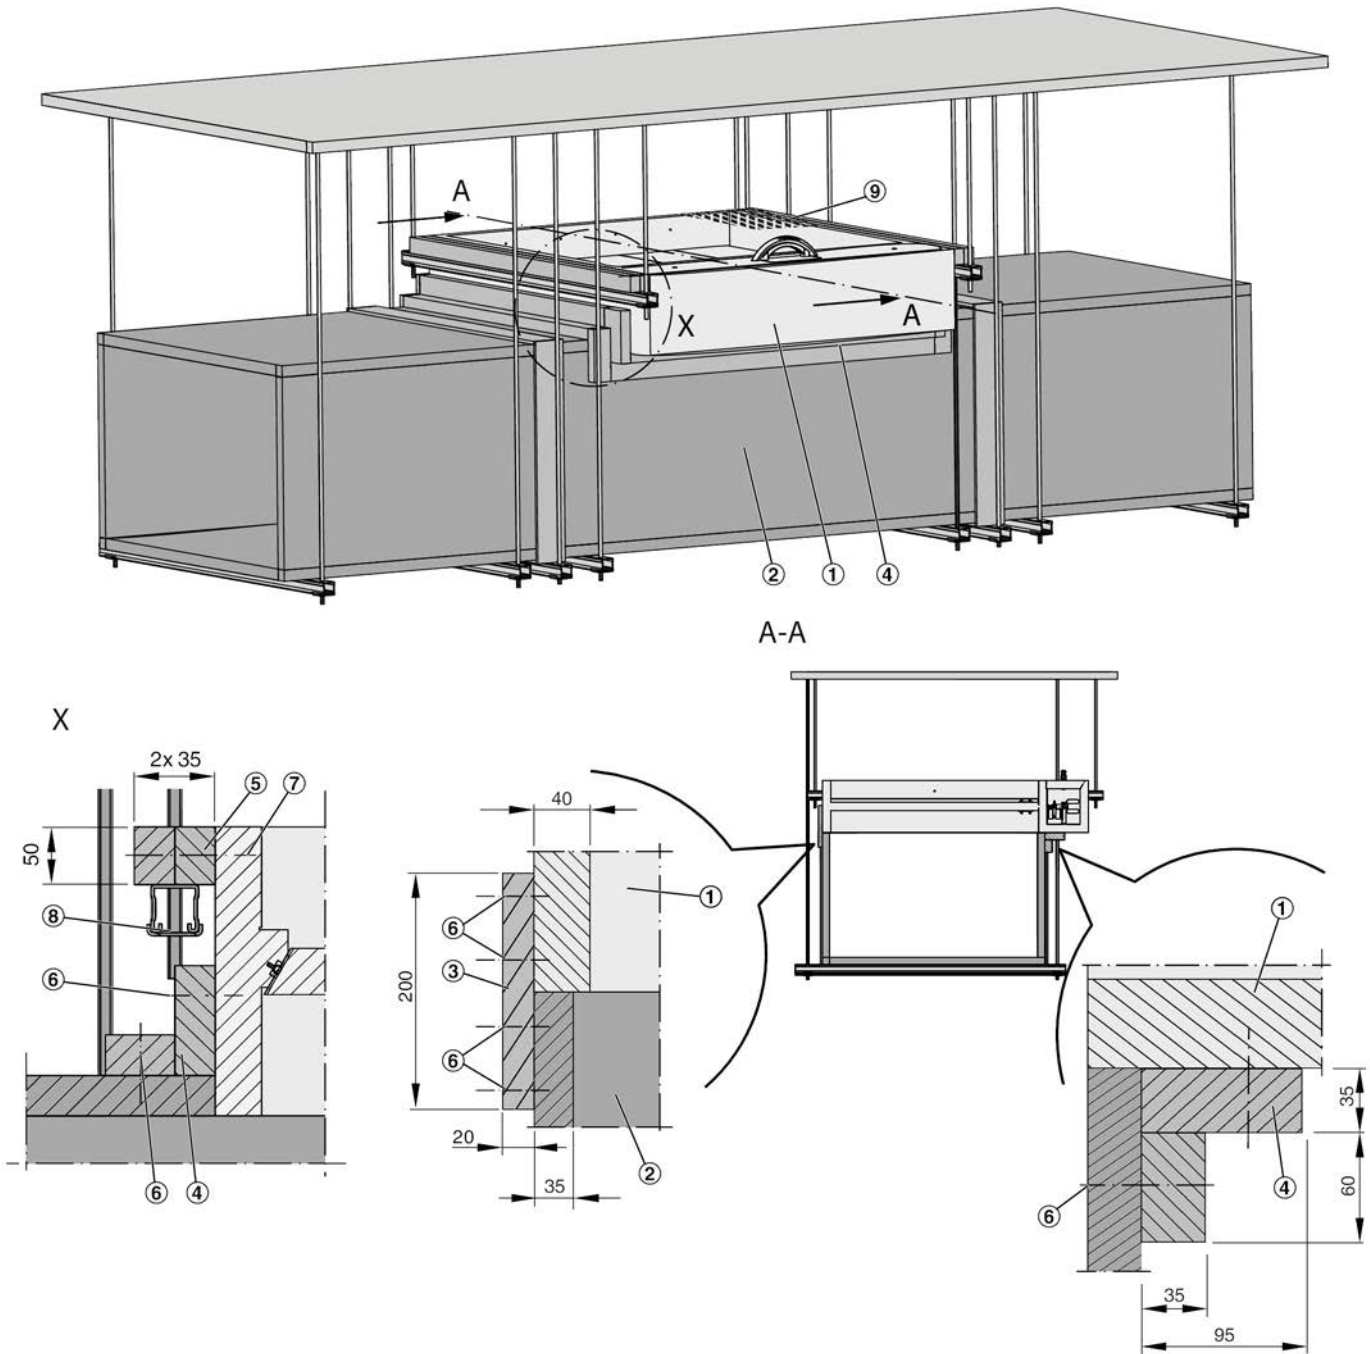

Fig. 34: Installation on a fire-resistant horizontal smoke extract duct
- ▶ Connect the fire-resistant smoke extract duct to the smoke control damper by placing an angle section ( Fig. 34 /4) between the duct and the damper ↪ 6 'Smoke extract duct and cover grille' on page 65 .
- ▶ If the smoke extract duct and smoke control damper are flush, the damper can be connected with connecting strips ( Fig. 34 /3).
If the operating side is not connected to a duct, a cover grille ( Fig. 34 /8) must be installed on the damper, ↪ 6.4 'Cover grilles' on page 67 .